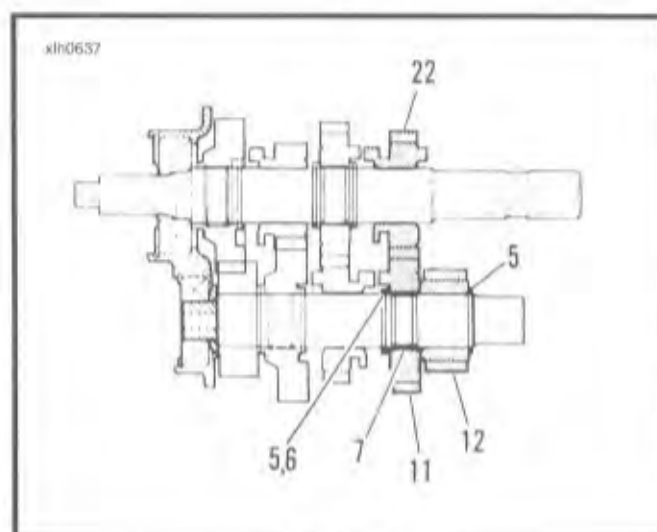

Figure 6-41.
15. See Figure 6-41. Install retaining ring (5) and thrust washer (6). Install split bearing (7) into seat next to thrust washer (6).
16. Install countershaft 2nd gear (11) over bearing (7).
17. Install mainshaft 2nd gear (22) onto shaft.
18. Install countershaft 5th gear (12).
19. Expand retaining ring (5) and slide into groove next to countershaft 5th gear (12).